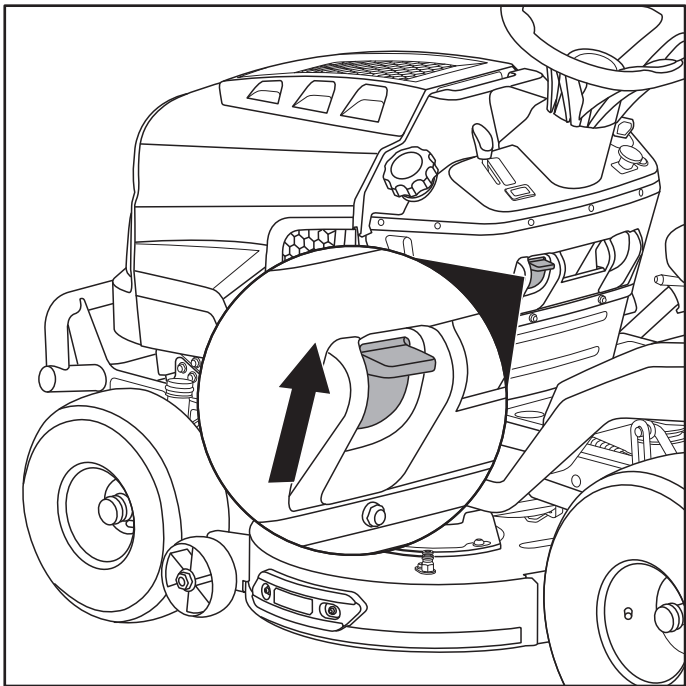

Fig. 20
2. Raise the parking brake lever all the way up into the lock position.(Fig. 20)